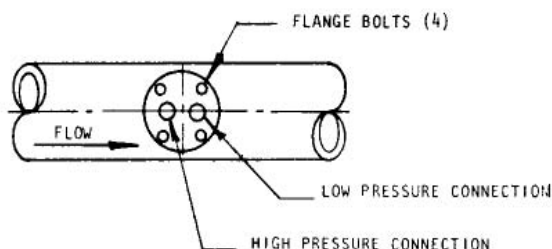

FIGURE 4.3 24D/25D FLANGE ORIENTATION
- 4.4.3 Tack weld the weld neck flange onto the Weld-O-Let so that the four holes on the flange straddle the pipe centerline. An imaginary line drawn through any two adjacent holes should run parallel to pipe centerline or perpendicular to it. Refer to Figure 4.3.